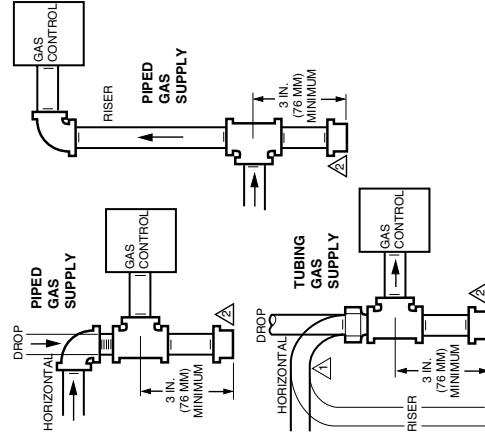

Fig. 2. Firmly fasten flange to valve, but do not overtighten screws.
4. With the O-ring facing the control, align the holes in the flange. Insert and tighten the screws provided with the flange. See Fig. 2. Tighten the screws to 25 inch-pounds of torque to provide a gas-tight seal.